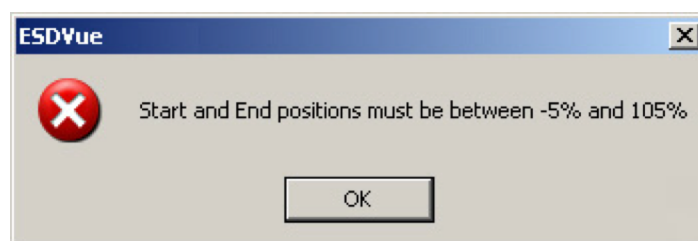

Figure 171 - Start/Stop Error Message
1. Enter the *Start* and *Stop* positions. The values must be between -5% and 105%. If you try to enter other values an error message appears (Figure 171).